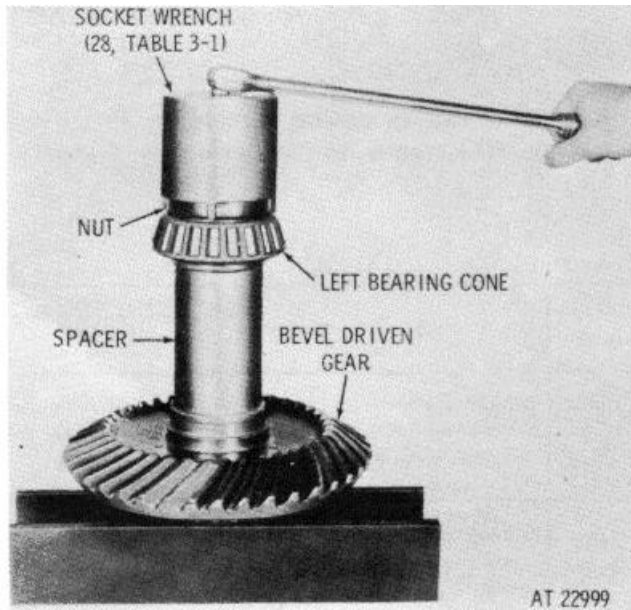

Figure 7-16. Removing (or installing) cross-shaft nut.
a. Unstake the lip of cross-shaft nut (47) from the slot in the shaft of gear and shaft assembly (43).
b. Using socket wrench (28, table 3-1), remove the nut from the shaft (fig. 7-16).
c. If the inner race of right bearing assembly (40, FO-5) must be removed from gear and shaft assembly (43), press the race off, using drill rods in the removal holes provided in the gear.
nut (47, FO-5) with beveled side toward the bearing race. Refer to figure 7-16. Tighten the nut to 150 pound feet torque.